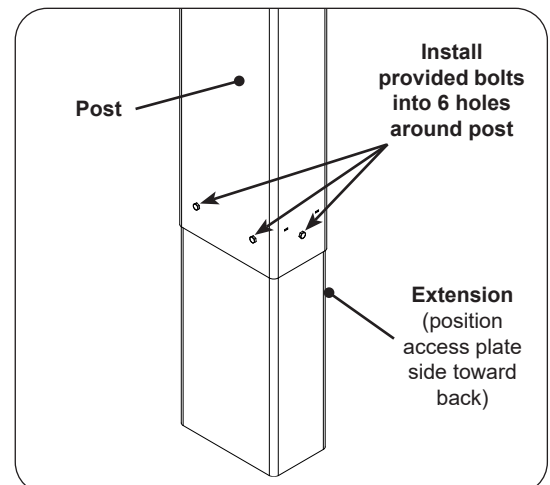

Fig. 30-3 Install extension to post
1. Attach the extension to the bottom of the grill post so that the open portion is facing the same direction as the access plate and the five holes in the extension line up with the six (6) weld-nuts in the post (see Fig. 30-3).